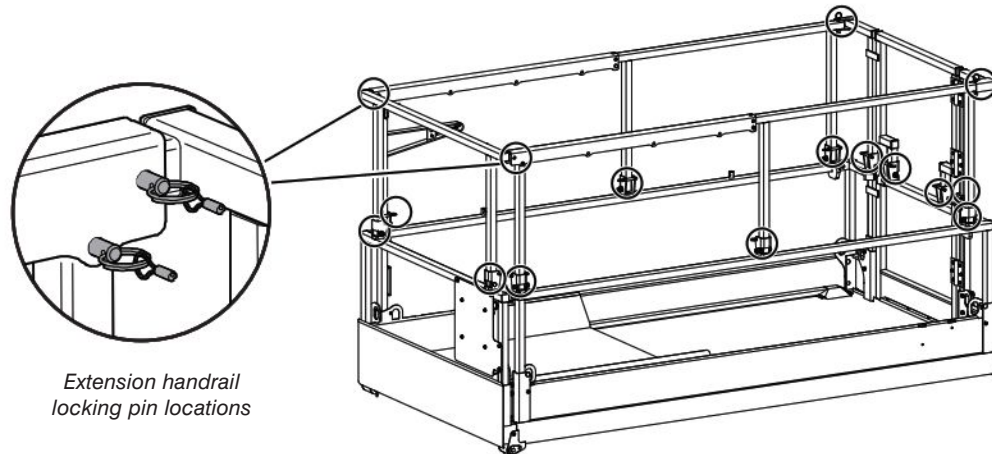

Figure 3-24. Guardrail Locking Pin locations
14. Verify all guardrail locking pins are in place (refer to Figure 3-24).